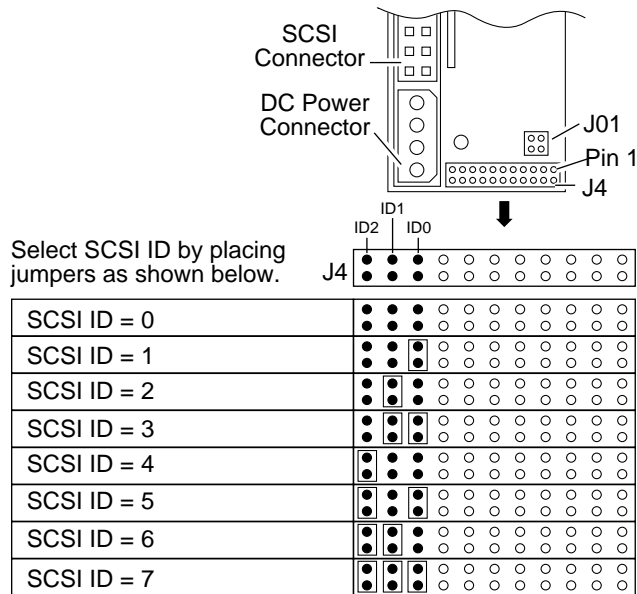
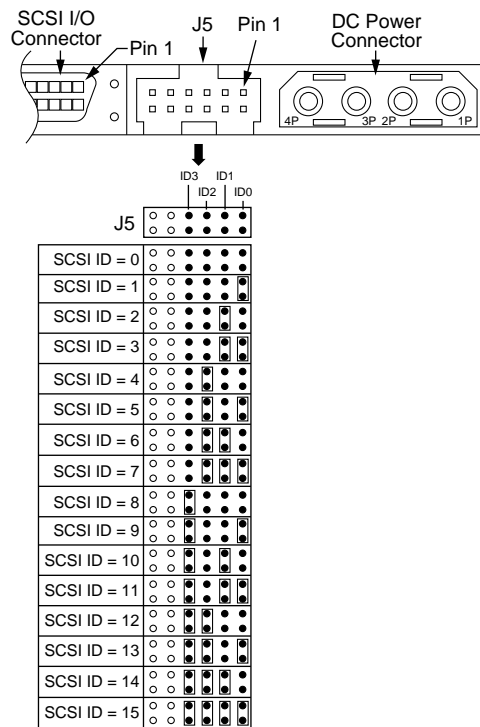

Figure 3. Setting the SCSI ID on N- and ND-type drives
Figure 4. Setting the SCSI ID on W- and WD-type drives
Use connector J4 to set the SCSI ID on ST11950N/ND and ST12550N/ND drives (Figure 3). Use connector J5 to set the SCSI ID on ST11950W/WD and ST12550W/WD drives (Figure 4). Most Barracuda 1 and 2 disc drives are factory set with the SCSI ID set at 0. To change the SCSI ID, install jumpers on the appropriate pins as shown in the illustrations.
3. Verify that you have correctly installed SCSI ID jumpers (see Figures 3, 4, 6, and 7).
3. Stellen Sie sicher, daß die Kennungsbrücken installiert sind. Siehe Abbildung 3, 4, 6, und 7.
4. Connect the 50-pin SCSI cable into the drive's SCSI connector (shown earlier in Figures 3 and 4). Take care not to stretch or crimp this cable, and do not block the system's cooling air flow with the cable.
4. Schließen Sie das 50-polige SCSI-Kabel an den SCSI-Steckverbinder des Laufwerkes an (wie bereits in Abbildung 3 und Abbildung 4 gezeigt). Das Kabel